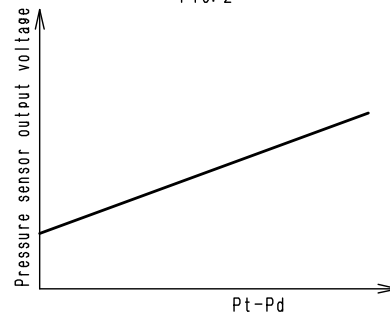

Fig. 3
- The differential pressure ( $P_t - P_d$ ) is applied to the differential pressure sensor and a voltage is output. The relation between the input and output signals is shown in Fig. 3. If the output pressure difference ( $P_t - P_d$ ) is decreased, the output voltage increases.